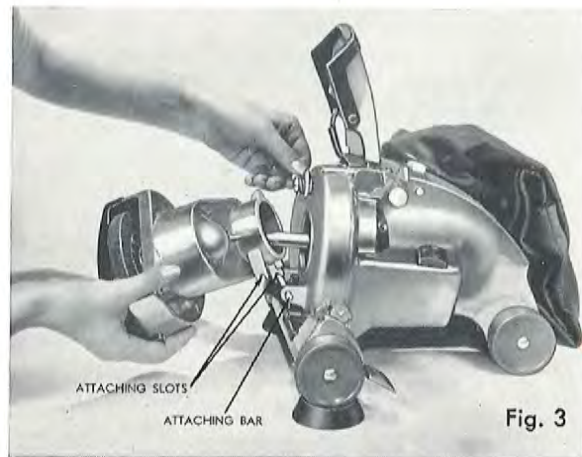

Fig. 3
STEP 3: Raise the Floodlight Hood. Hold the Handi-Butler so the Attaching Slot is on the Attaching Bar which is just below the Belt Drive Shaft. (Figure 3) The Belt Drive Shaft should enter the large round opening and pass through the loop formed by the belt.
STEP 5: Turn the Belt Lifter lever to the "ON" position and the unit is ready for operation. Rubber suction cups which are provided may be placed under the front wheels to steady the unit (figure 3).